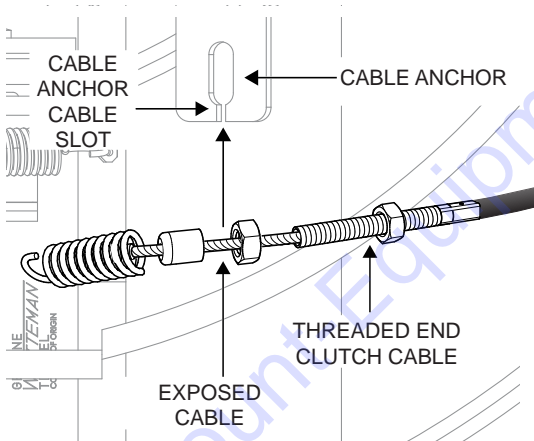

Figure 18. Inserting Clutch Cable Into Cable Anchor
8. Insert the exposed cable (Figure 18) into the cable slot on the cable anchor.